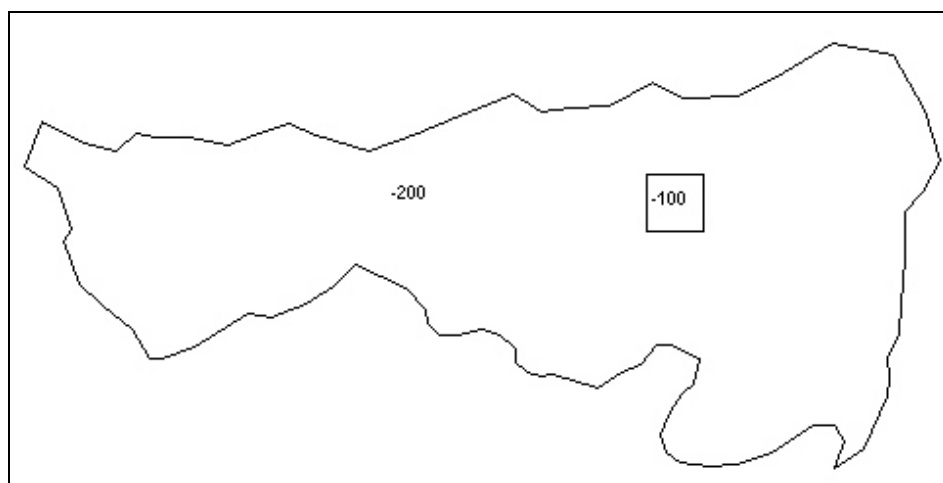

Figure 2. Recharge zones representing aquifer recharge (-200) and landfill leakage (-100).
First we will set up the recharge zones. The recharge polygons are shown in Figure 2. We will define a parameter for both the small polygon defining the landfill and the larger polygon encompassing the rest of the site. The key values associated with the two zones are shown on the polygons in the figure. The -200 zone represents recharge to the aquifer from rainfall. The -100 zone represents leakage from the landfill to the aquifer.
4. Double click on each of the polygons show in Figure 2 and assign the appropriate key value to the *Recharge rate* input field.